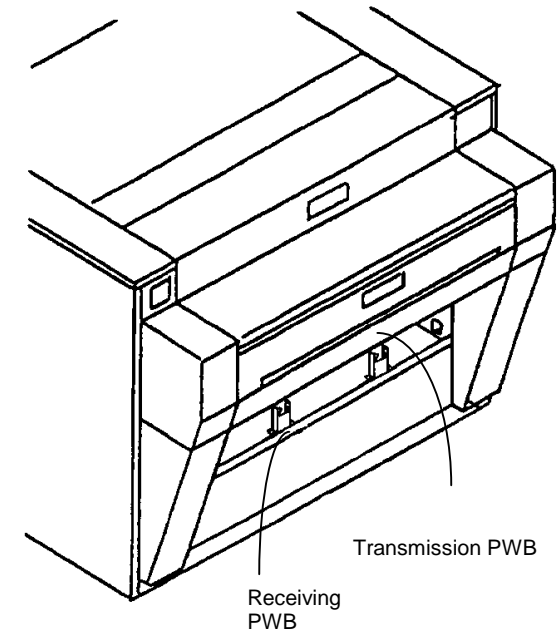

**Figure 1. Removing the Existing Catch Tray Assembly**
2. (Figure 1): Remove the Catch Tray, Catch Tray Brackets and the Stop Bracket from the rear of the 8855. These items should be retained by the customer.